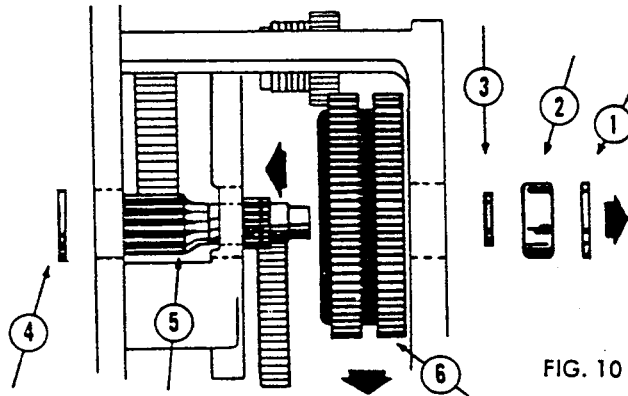

FIG. 10
**TO DISASSEMBLE LOAD BRAKE** (Fig. 10). Remove the outer retaining ring (1) with special retaining ring pliers. Remove bearing (2) and inner retaining ring (3). Remove retaining ring (4) from opposite end of shaft (5). Push shaft through housing and remove gear assembly (6). Other gears are removed by removing retaining rings.